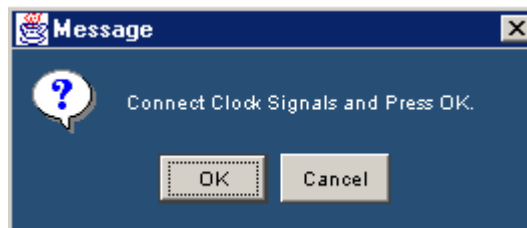

Figure 3-153: Clock signals message box
4. Press **OK** in Figure 3-153 Holdoff message box to continue the peak to peak jitter measurement and **Cancel** to stop running the measurement.